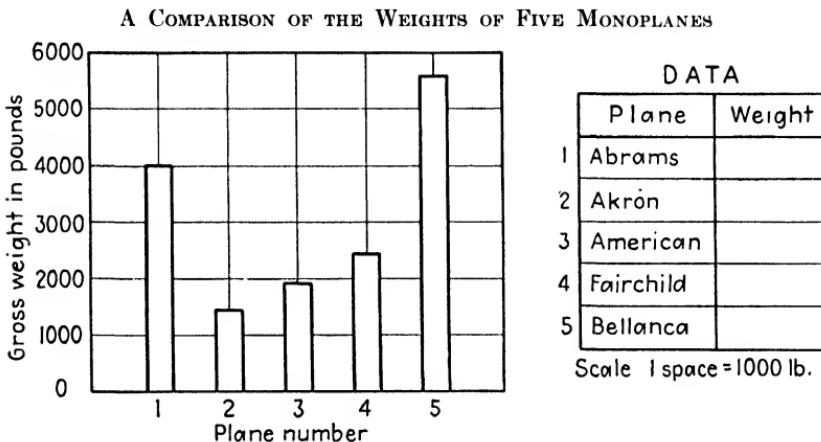

Fig. 140.
1. Construct the graph shown in Fig. 140 *in your own notebook* and complete the table of data.